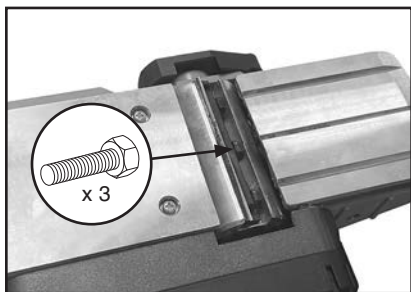

Figure 25. Location of hex bolts securing knife.
3. Rotate (3) hex bolts shown in **Figure 25** clockwise.